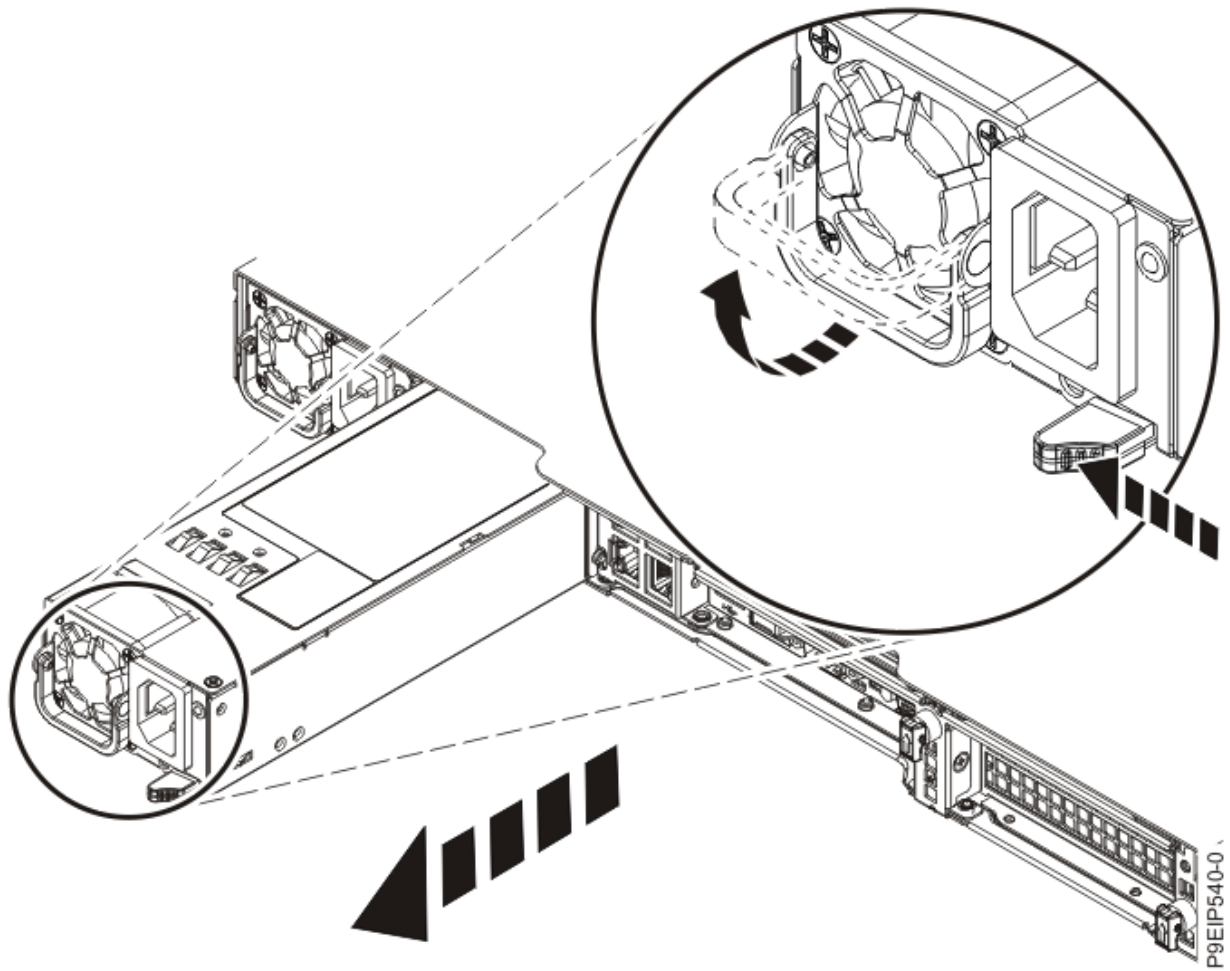

Figure 29. Removing a power supply from the system
- a) To unseat the power supply from its position in the system, push the locking-tab to the left as shown in Figure 29 on page 33.